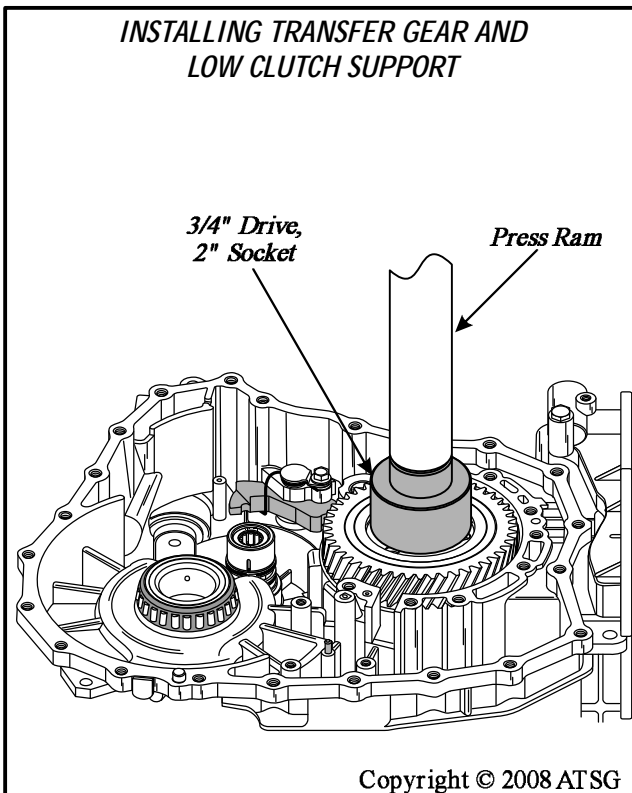

Figure 76
25. Press transfer gear "A" and low clutch support into case, using the 3/4" drive, 2" socket, as shown in Figure 76.